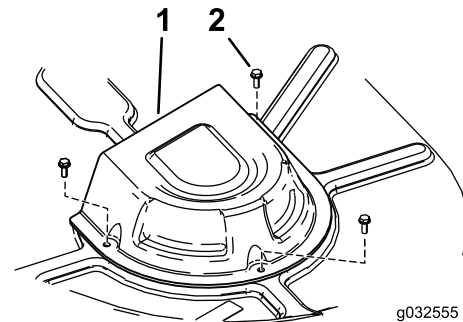

Figure 59
4. Remove the pulley covers (Figure 59).
- Install the pulley covers (Figure 59).